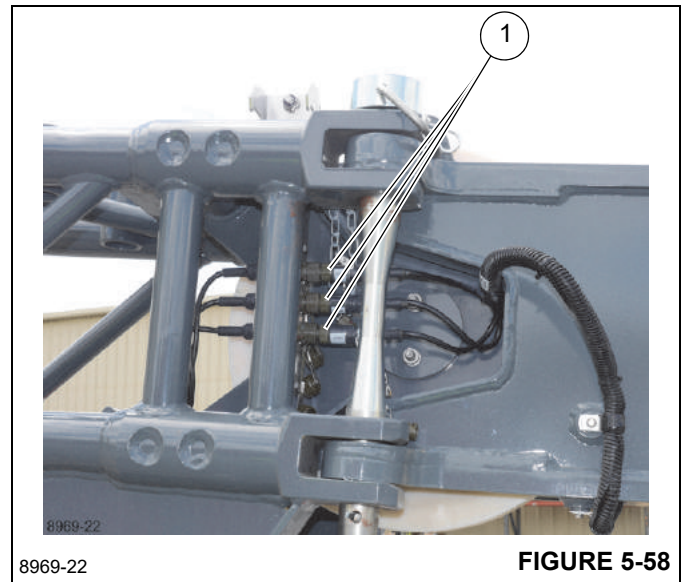

FIGURE 5-58
- b. Connect the plugs (1, Figure 5-58) to the sockets making sure the plug wire number corresponds to the socket number.